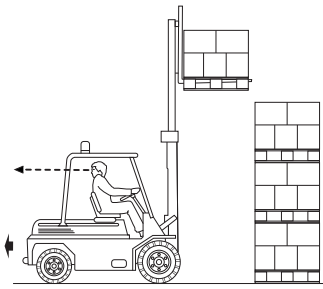

Figure 11
- (e) check that the way is clear, then move slowly backwards until the load and fork arms are clear of the face of the stack, taking care not to dislodge loads in adjacent stacks and apply the parking brake, selecting neutral if applicable (Figure 11);